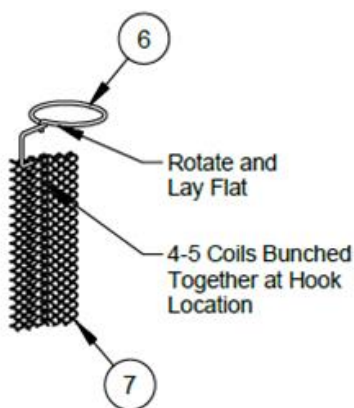

Figure 4b
Step 2: Position the Hook (6) horizontal and rotate it towards the Mesh (7). (Fig. 4b)
Step 3: Push and twist the Hook (6) through the first row of mesh diamonds. (Fig. 4b)